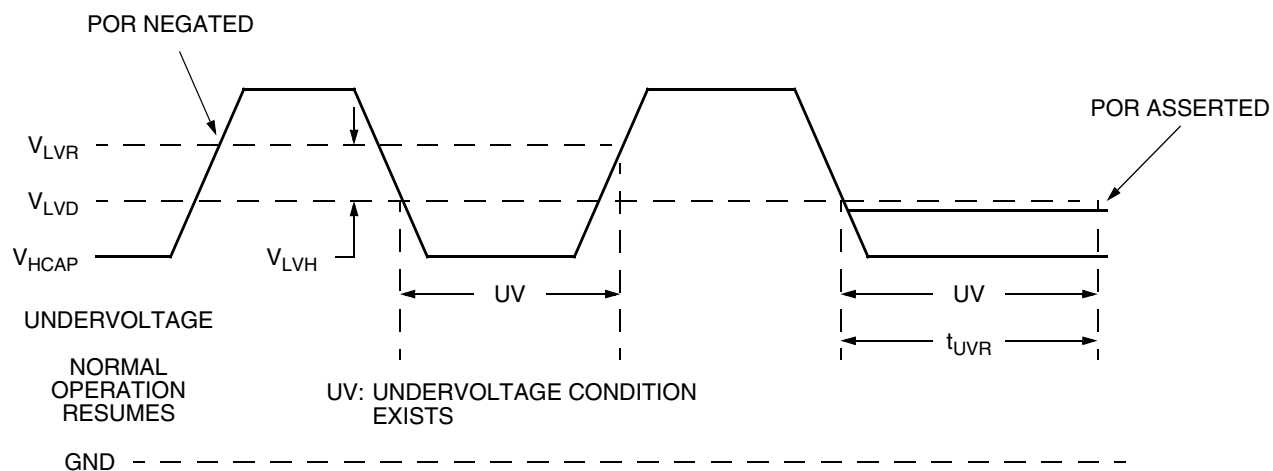

Figure 5-1.  $V_{HCAP}$  Undervoltage Detection
| 120 | $V_{HCAP}$ Undervoltage Reset Period(see Figure 5-1)$V_{HCAP} < V_{RA}$ to POR assertion      | $t_{UVR}$     | 0.95 | 1.0   | 1.05 | ms          | (8) |